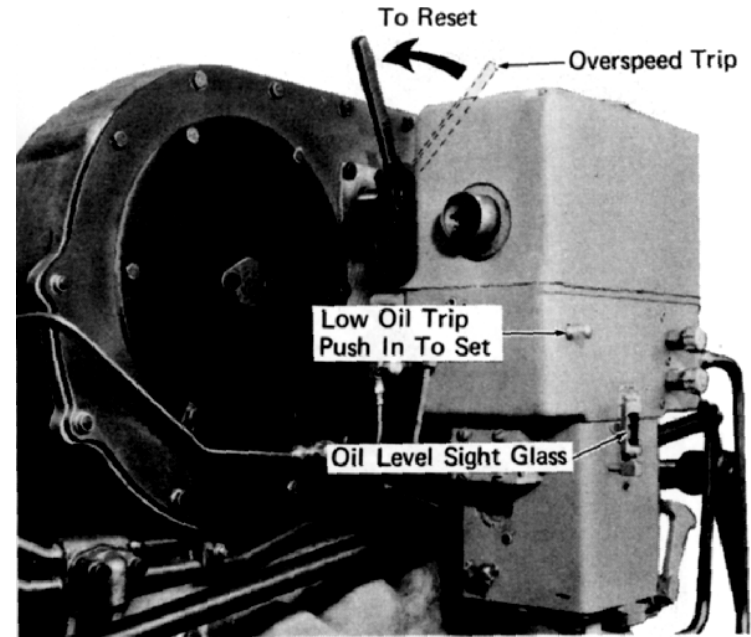

Fig. 3-1 - Engine Overspeed Trip And Low Oil Pressure Trip Plunger
1. Check to see that engine overspeed lever is set, Fig. 3-1.
2. Observe that governor low oil pressure trip plunger, Fig. 3-1, is set and that there is oil visible in the governor sight glass.